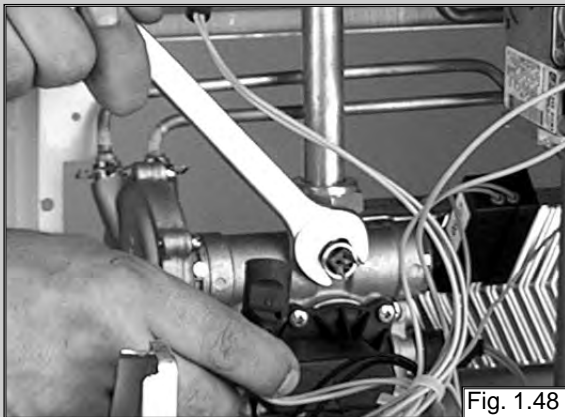

Fig. 1.48
1. Remove the electrical connector by pulling off the thermostat connections and unscrewing the sensor probe with a 14 mm open ended spanner (see fig. 1.48).